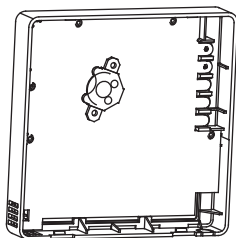

Fig 3-5
- Put the battery into the installationsite and make sure the positive side of the battery is in accordance with the positive side of installationsite.(See Fig.3-5)